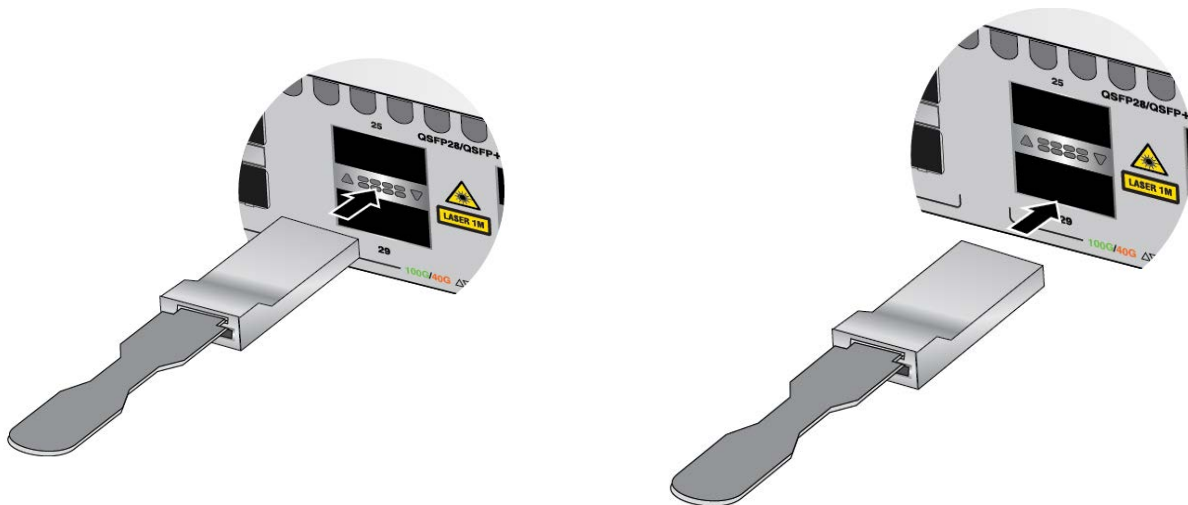

Figure 120. Installing 100Gbps QSFP28 Transceivers in Base Ports 25 to 37
- ❑ 100Gbps QSFP28 transceivers for base ports 25 to 37: refer to Figure 120.